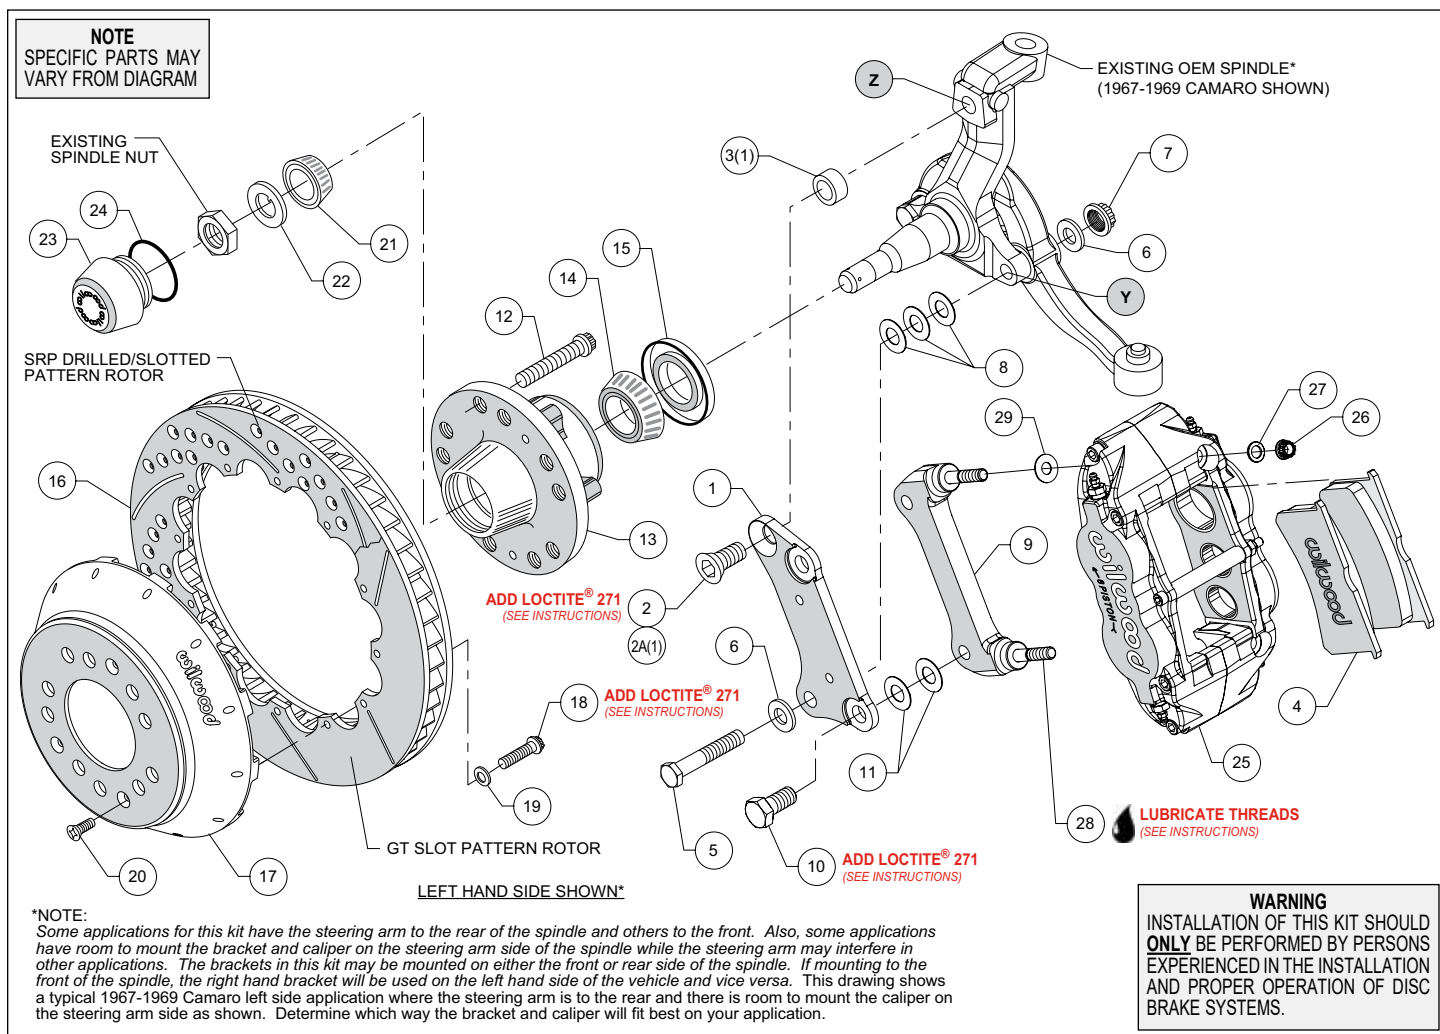
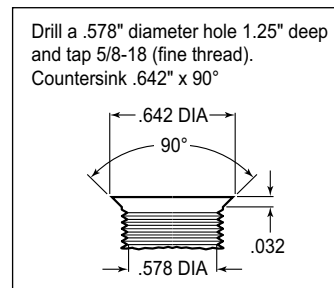
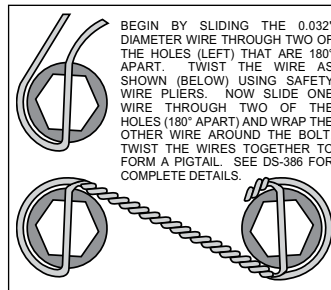

Figure 1. Typical Installation Configuration
Figure 3. Drill and Tap Detail
Figure 4. Safety Wire Diagram
**NOTE:** Numbers in parenthesis refer to the parts list and Figure 1 on the preceding pages.
- NOTE:** Some applications for this kit have the steering arm to the rear of the spindle and others to the front. Also, some applications have room to mount the bracket and caliper on the steering arm side of the spindle while the steering arm may interfere in other applications. The brackets in this kit may be mounted on either the front or rear side of the spindle. If mounting to the front of the spindle, the right hand bracket will be used on the left hand side of the vehicle and vice versa. Figure 1 shows a typical 1967-1969 Camaro left side application where the steering arm is to the rear and there is room to mount the caliper on the steering arm side as shown. Determine which way the bracket and caliper will fit best on your application.
- NOTE:** Some spindles in this year range may require the following modifications (reference Figure 1 and Figure 3): Top anchor pin hole (Z) must be drilled and tapped to the dimensions as outlined in Figure 3. The lower bolt hole (Y) in the spindle used to mount the new caliper bracket, and the mating steering arm hole, must be enlarged to .50" by drilling. It is recommended these modifications be performed by a qualified machinist.
- Install wheel studs (12) into the hub (13), Photo 1. Torque to 77 ft-lb. **NOTE:** There are two five lug patterns in the hub (5 x 4.50 and 5 x 4.75). Make sure of the correct hole pattern for the correct wheel application before installing studs into hub.
- Pack the large inner bearing cone (14) with high temperature disc brake bearing grease (available from your local auto parts store) and install into the backside of the hub (13).
- Install the grease seal (15) by pressing into the backside of the hub (13), Photo 2.
- Orient the rotor (16) and the hat (17) as shown in Figure 1 and Photo 3. Attach rotor to hat using bolts (18) and washers (19). Using an alternating sequence, apply red *Loctite*® 271 to the threads, and torque to 155 in-lbs. For an added measure of security, the bolts may be safety wired using standard 0.032 inch diameter stainless steel safety wire as shown in Figure 4. Please refer to Wilwood's data sheet DS-386 (available at [www.wilwood.com/Pdf/DataSheets/ds386.pdf](http://www.wilwood.com/Pdf/DataSheets/ds386.pdf)) for complete safety wire installation instructions.
•**Disc Brake Spindle Application Only:** Follow the instructions below, but instead use bolt (2A), and spacer (3) in the upper bolt hole location, Figure 1.
•Orient the flat bracket (1) as shown in Figure 1 and Photo 4, and install using bottom bolt (5), washers (6), and nut (7), Figure 1. Initially place three .032" thick shims (8) between the bracket and spindle. Install the upper bolt (2 or 2A). Temporarily tighten bolts. **NOTE:** *The bracket must fit squarely against the mounting surfaces on the spindle.* Inspect for interference from casting irregularities, machining ridges, burrs, etc. Temporarily install the new hub, hat and rotor assembly. Check that the bracket is aligned parallel to the rotor, Photo 5. If not, adjust by adding or subtracting shims (8) on the lower bolt between the bracket and spindle, Figure 1. Once the bracket alignment is correct, remove the upper bolt (2 or 2A), apply red *Loctite*® 271 to the bolt threads, and torque to 120 ft-lb. Torque the lower lock nut to 65 ft-lb.
•The radial mount caliper bracket (9) should initially be installed with clean, dry threads on the mounting bolts. Orient the bracket as shown in Figure 1 and Photo 6, and install using bolts (10). Initially place two .029 thick shims (11) on each bolt between the two brackets, Figure 1. Temporarily tighten the mounting bolts. Later, after the caliper alignment has been checked, the mount bolts will be secured using red *Loctite*® 271.
•Pack the small outer bearing cone (21) with high temperature disc brake bearing grease and install into hub (13). Final install the hub assembly onto the spindle. Secure using spindle washer (22) and OEM spindle nut, Photo 7. Adjust bearings per OEM specifications. Install saved OEM nut lock (if any) and a new cotter pin (not included).
•Screw dust cap (23) into hub (13). Friction created by the o-ring (24) on the dust cap keeps it from unscrewing. **NOTE:** *The O.D. of the existing OEM spindle washer may be larger than the I.D. of the dust cap not allowing it to seat against the hub face. Therefore, use the spindle washer (22) supplied with the kit instead of the OEM washer.*
•Final install the rotor (16 and 17) assembly onto the hub (13), taking care to align the small countersunk holes in the hat with the small threaded holes in the hub. **NOTE:** *The hat must fit flush against the hub face or excessive rotor run out may result.* Install three flat head screws (20) through the small holes in the hat (17), Photo 8, and torque to 85 in-lb.
•**NOTE:** *This kit contains distinct right and left hand calipers that must be mounted in a specific direction, as described below.* Lubricate the caliper mounting studs (28) with lightweight oil. Initially place one .035" thick shim (29) on each stud between the caliper and the bracket, as shown in Figure 1 and Photo 9. Mount the caliper (25) onto the bracket (9) using lock nuts (26) and washers (27), Figure 1. Ensure that the caliper is mounted so the largest pistons are at the rotor exit end of the caliper, in relation to the direction of rotor rotation. Temporarily tighten the lock nuts. The rotor should be centered in the caliper, Photo 10. If not, adjust by adding or subtracting shims (11) between the flat bracket (1) and the caliper bracket (9). Always use the same amount of shims on each of the two mounting bolts. Once the caliper alignment is correct, remove the bracket mounting bolts one at a time, apply red *Loctite*® 271 to the threads, and torque to 77 ft-lb.